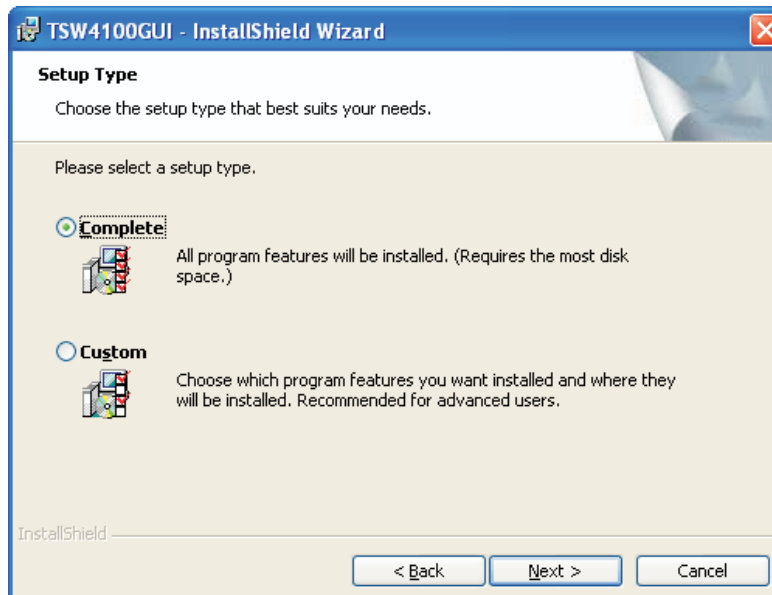

Figure 11. Setup Type
- On the Setup Type (Figure 11) display, select the *Complete* Setup Type option and click *Next*.